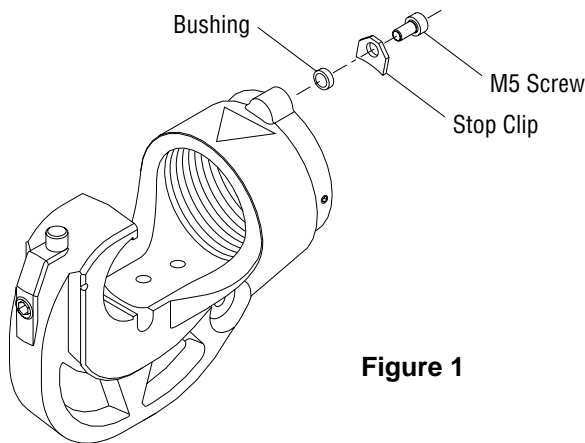

Figure 1
1. Remove the M5 screw and stop clip from the head. Refer to Figure 1.